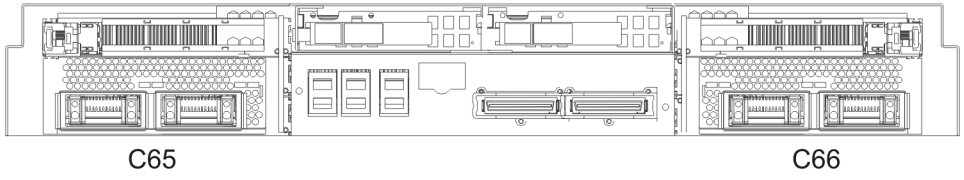

Figure 17. GX slot location for p5-575 servers
- Refer to Figure 17 on page 50 for the C66 and C65 slot locations